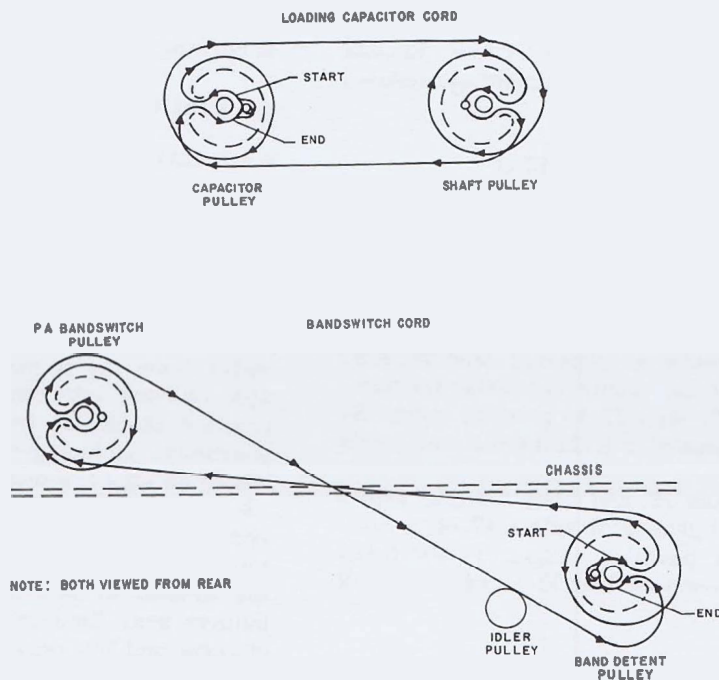

Figure 4-3. Dial Cord Stringing Diagram
#### 4.6 DIAL CORD REPLACEMENT. (Refer to figure 4-3.)
d. String the cord according to the appropriate part of figure 4-3. Make sure the cord turns do not overlap on the pulleys. Pull the cord tight and tie to the tab. Mash the tab down to clamp the cord securely. Tighten the idler to bring the cord to tension.
d. String the cord according to the appropriate part of figure 4-3. Make sure the cord turns do not overlap on the pulleys. Pull the cord tight and tie to the tab. Mash the tab down to clamp the cord securely.